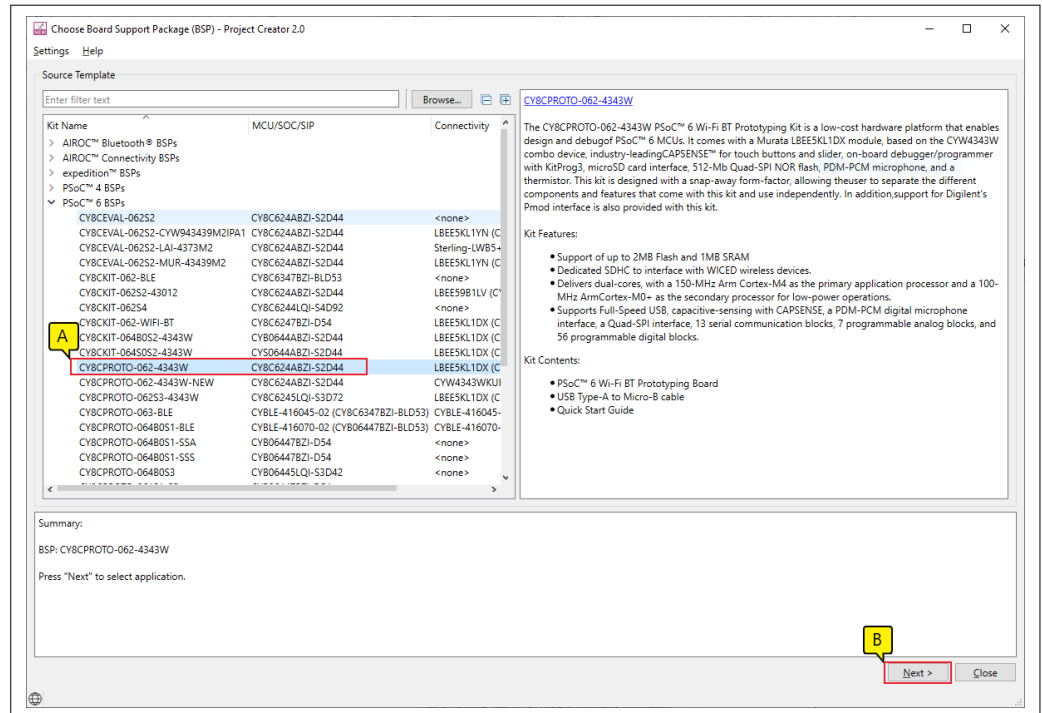

Figure 13 Choose target hardware
- a. In the **Choose Board Support Package (BSP)** dialog, choose the **Kit Name** that you have. The steps that follow use **CY8CPROTO-062-4343W**. See Figure 13 for help with this step